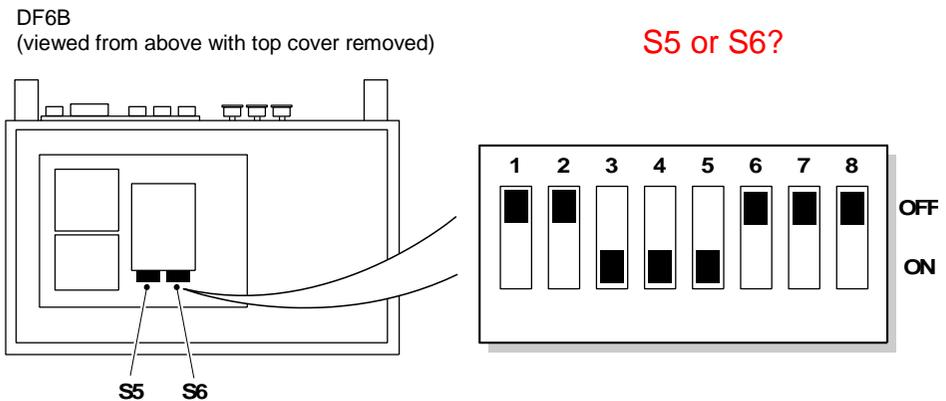

Figure 4.1 Internal Switches
4.4.2 Locking Out by Internal Switches (Figure 4.1)